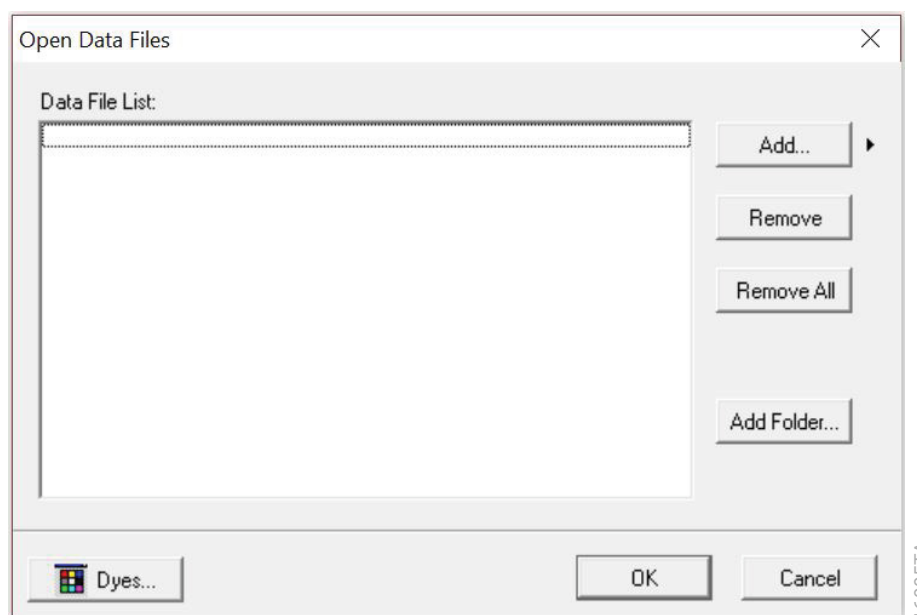

Figure 18. The GMHID-Spectrum Data File List.
4. Select **Open**, and the selected files will appear in the Data File List (Figure 18).